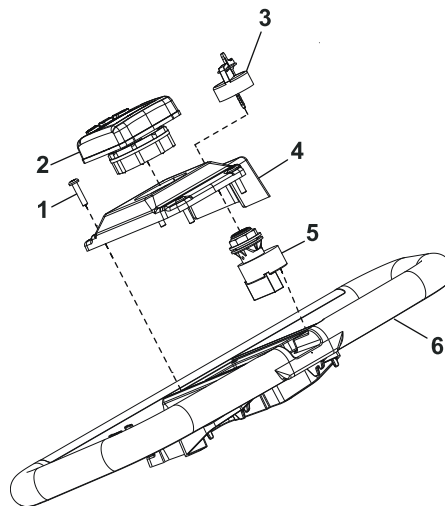

Figure 57
The key switch allows the machine operation to be turned on and off. The key switch has 3 positions: OFF and ON. This switch is 1 of the several inputs for the TEC and is located on the InfoCenter mount (Figure 57).
3. Remove the InfoCenter mount from the handle to access the key switch; refer to Figure 57
8. Install the InfoCenter mount to the handle; refer to Figure 57.